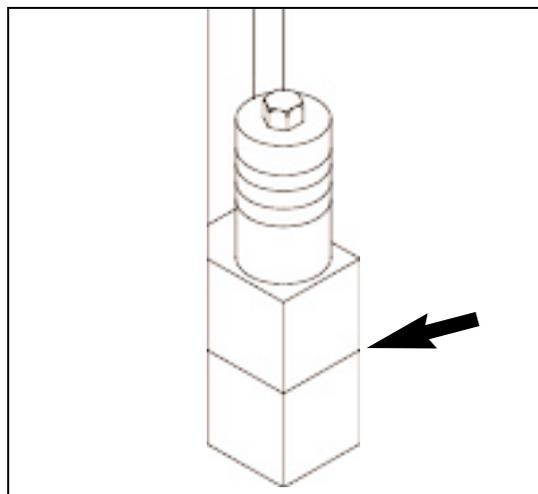

Figure 4.9 NO SPACERS
- e. Store spacers on bottom side of bolt for front bolts and left hand rear bolt. For right hand rear bolt, store spacers on top. Tighten bolts at all 4 corners that secure mold throat plate spacers (see figure 4.9).